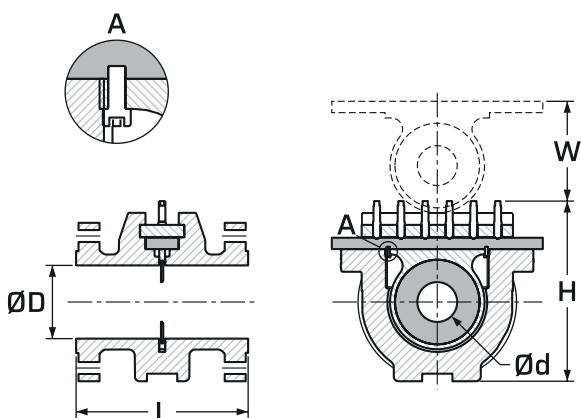

Figure 4 — NPS 2" – 10", flange × flange. Detail A: seal bar and carrier.
- C Centre-to-face dimension; not drawn in Figures 4 – 5
- D Line bore, pipe internal diameter (Figures 4 – 5)